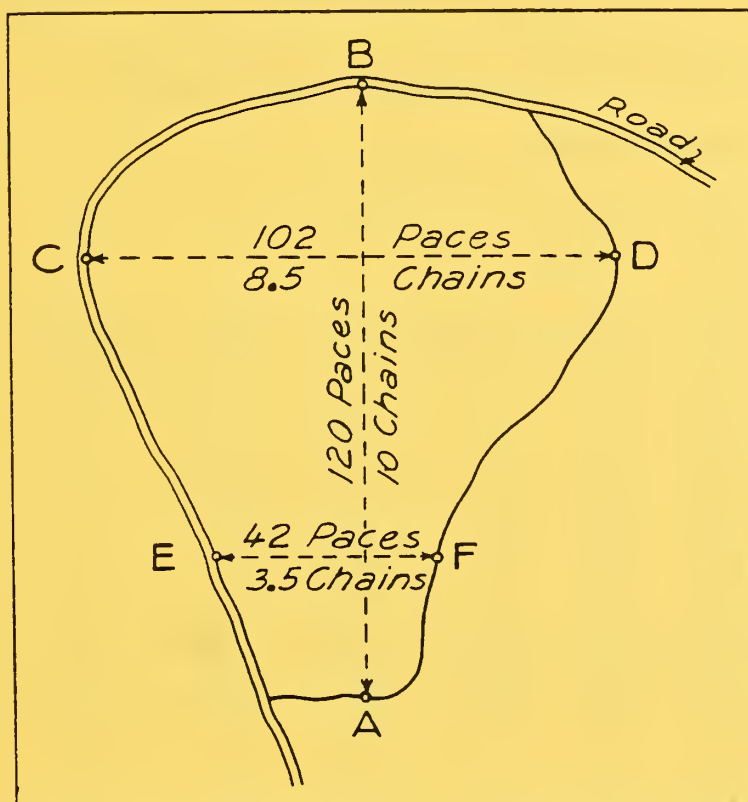

Figure 1.--Measuring burned area.
1. Determining Acreage of Small Fires. Firefighter should determine acreage of a small fire as shown in figure 1. After the fire is mopped up the general shape should be determined. This can be done by walking around and through the burn. The average dimensions can be obtained by pacing. This information is recorded in the firefighter's notebook. Also, a sketch of the shape of the fire should be made. See figure 1.